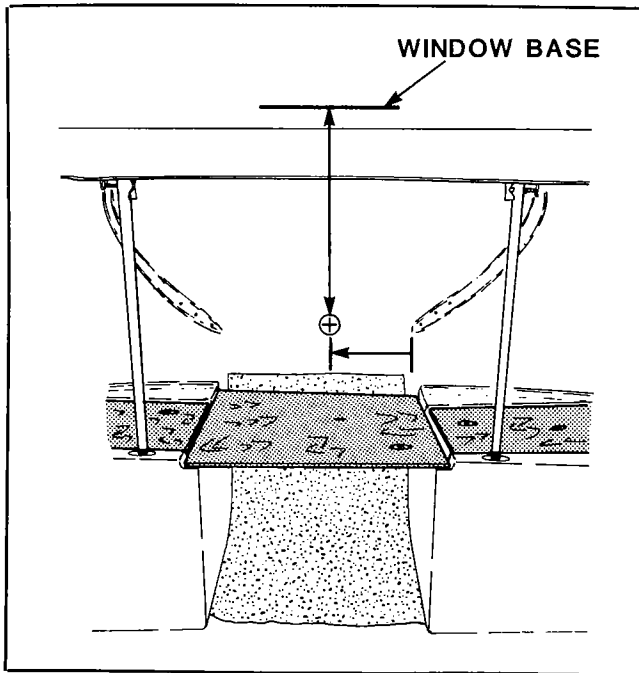

Figure 37. Measurement for LP Regulator Access Holes - Internal
3. Transfer the measurements from the front to the inner front wall (figure 37).